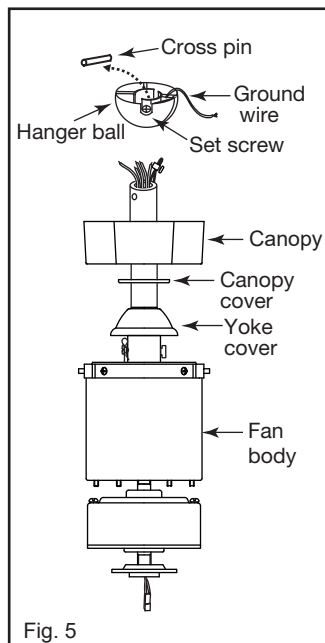

Fig. 5
Step 6. Slip the wires from the fan motor through the yoke cover and canopy cover and canopy onto the downrod. Slide the hanger ball onto the downrod, insert the cross pin through the downrod. Pull the hanger ball up so the cross pin seats in the channel in the hanger ball. Tighten the set screw. (Fig. 5)